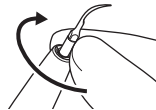

Figure 5
- 2) Turn the tip lightly by hand and install it. (Figure 5)